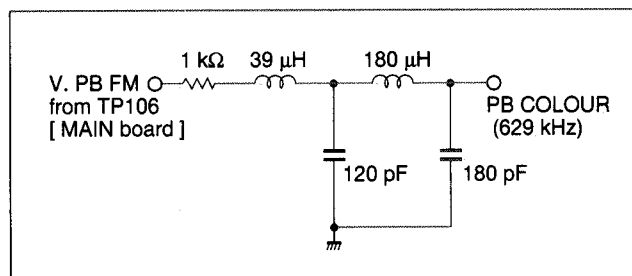
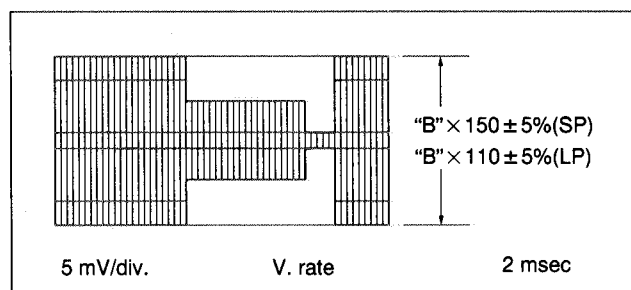

Fig. 3-3-4 LPF
Fig. 3-3-5 REC colour level
- (1) Connect an oscilloscope to PB COLOUR of a LPF (refer to Fig. 3-3-4) and TP111 (negative slope) on the MAIN board.
- (2) Playback the SP colour bar signal of the MH-2H alignment tape.
- (3) Adjust by pressing the CH "+" or "-" buttons of the Front panel for maximum level of the color waveform and make a note of the higher colour level "B".
- (4) Press the STOP/EJECT button and eject the MH-2H alignment tape.
- (5) Set the EVR mode by pressing the "K" button of the presetting unit.
- (6) Set "A : 2" by pressing 2 button of the remote controller.
- (7) Before recording, adjust the CH "+" or "-" buttons of the remote controller so that the higher level channel becomes $150 \pm 5\%$: SP ($110 \pm 5\%$: LP) of the note "B" level during playback as shown in Fig. 3-3-5.
- (8) Record a colour bar signal in the SP (LP) mode, and playback the recorded colour bar signal.
- (9) Set the normal VCR mode by pressing the "K" button again so adjustment data is memorized.